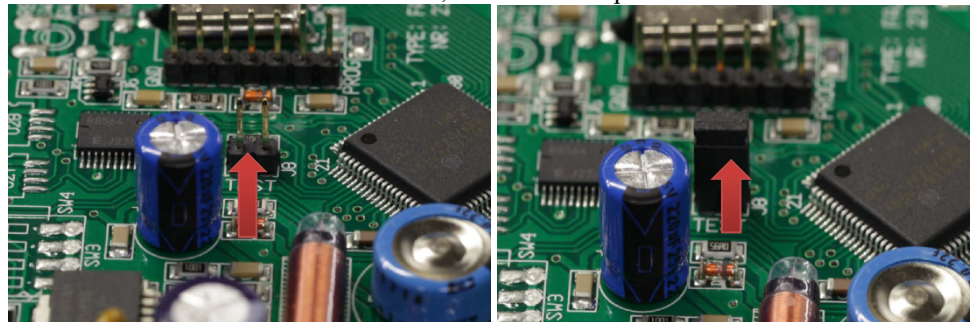

Figure 1
1. Place test jumper on the TEST connector on the PCB board. **Fig. 1**